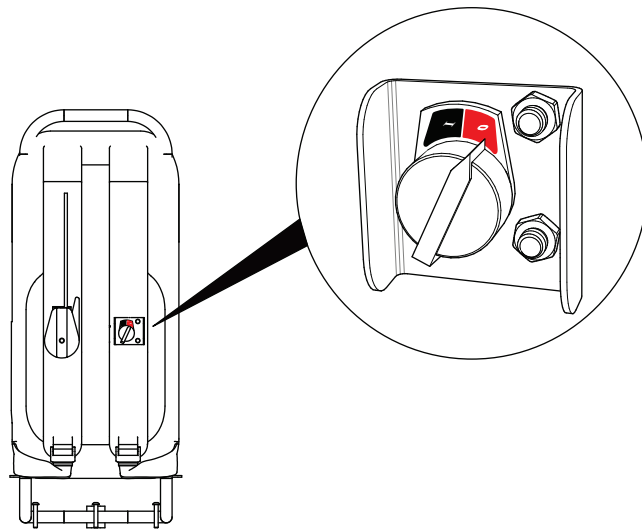

Figure 21. ON/OFF Switch (OFF)
3. Place the ON/OFF switch located on the **left** strap in the **OFF** position (Figure 21).
To quickly shut down the engine while the vibrator is in use, place the engine ON/OFF switch located on the **left** strap in the **OFF** position (Figure 21).